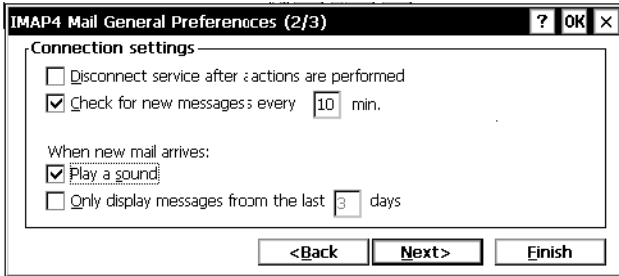

Figure 4-9. General Preferences Dialog Box
6. Click **Next**. The *IMAP4 Mail General Preferences* dialog box displays (Figure 4-9 on page 4-8). Do the following: